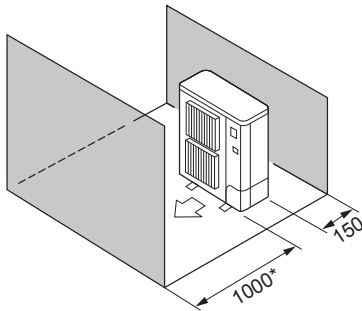

Fig. 5-7
- ⑤ Obstacles at front and rear only (Fig. 5-7)